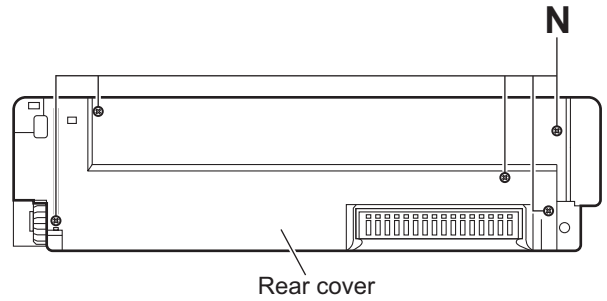

Fig.10
3.1.10 Removing the switch board (See Figs.10 to 12)
- (1) Remove the five screws **N** attaching the front panel assembly. (See Fig.10)